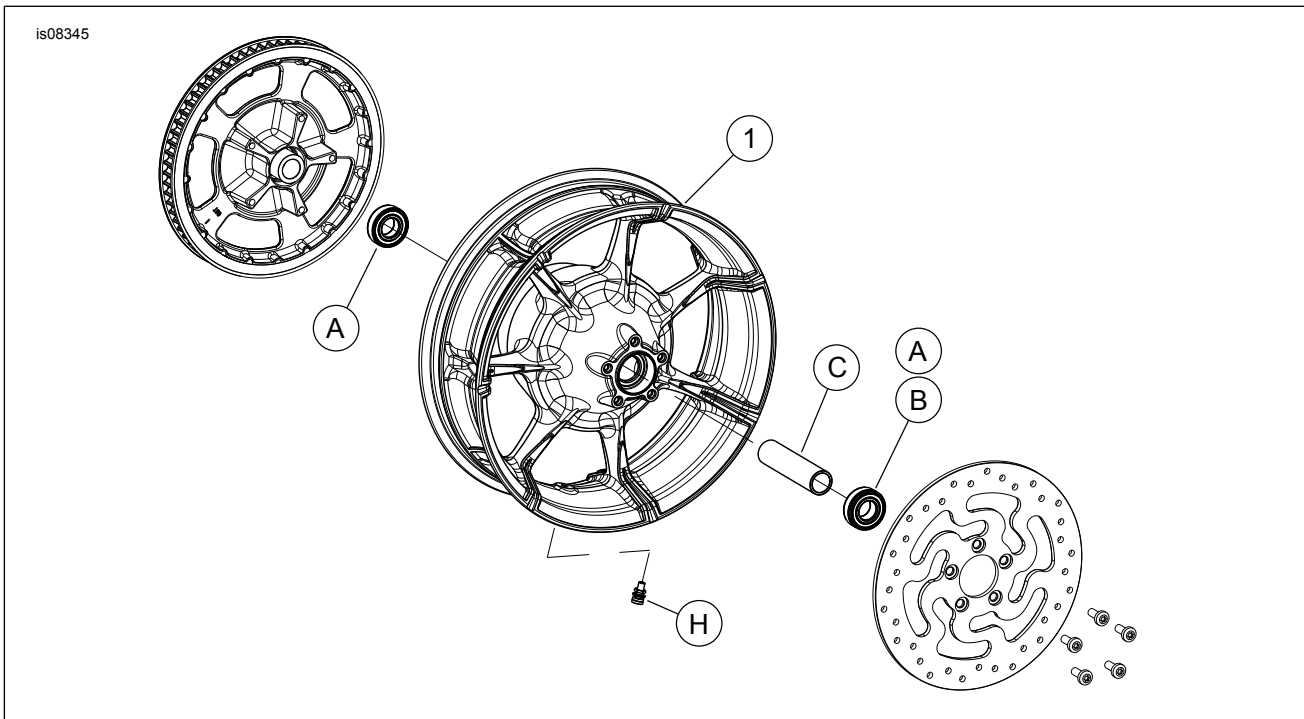

Figure 1. Service Parts: Rear Slicer Wheels
See Figure 1 and Service Parts Tables.
2. See Figure 1. Install valve stem assembly (H) on wheel. Refer to the service manual.